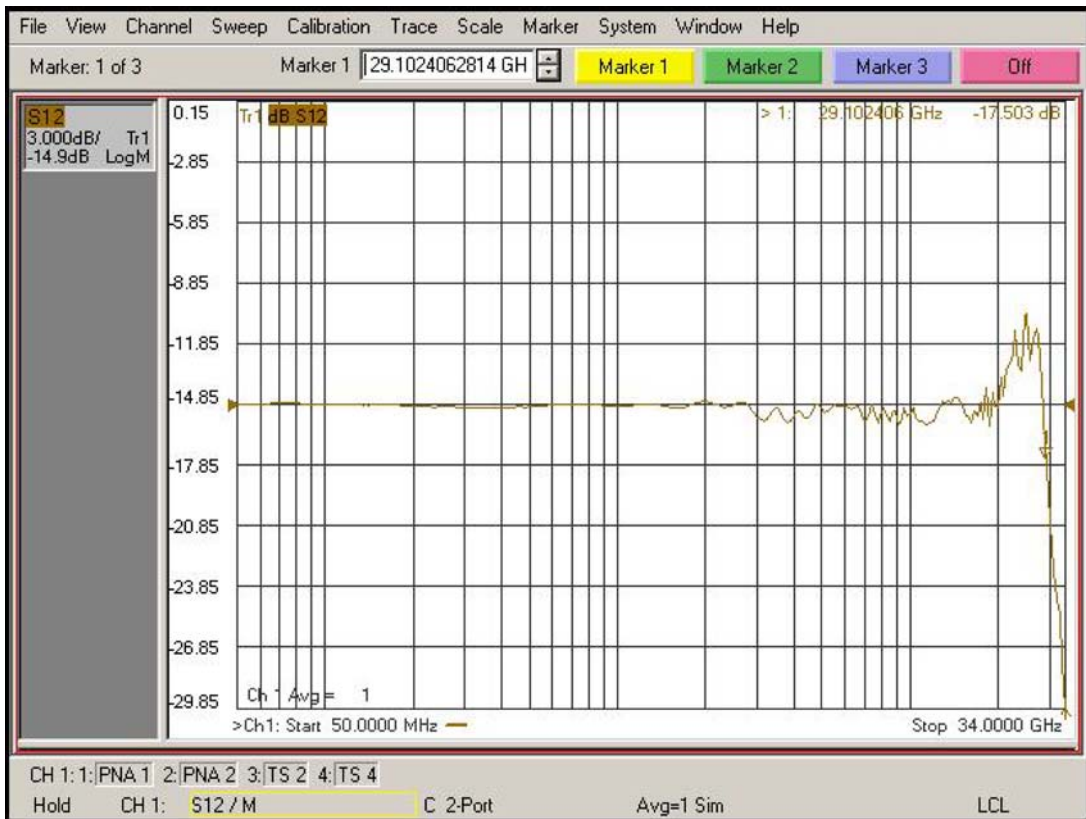

Figure 85 De-Embedded V_{out}/V_{in} Response of the Probe
- b Again, adjust the “Reference Level” in the scale menu so the 50 MHz point is at center screen. The display should look like Figure 85 on page 130.